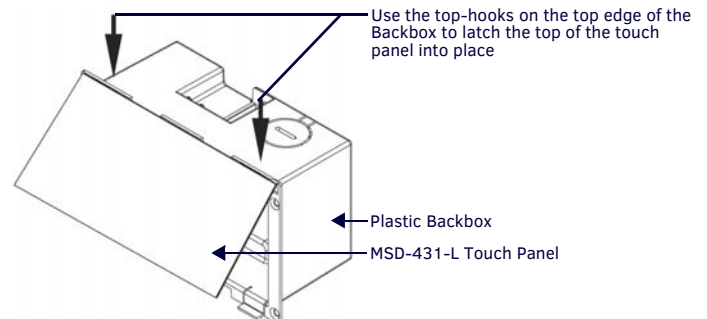

FIG. 5 ENGAGING THE TOP EDGE OF THE PANEL WITH THE TOP HOOKS ON THE BACKBOX
1. Center the top edge of the touch panel against the upper outside edge of the Backbox and latch the top of the panel onto the Backbox top-hooks (FIG. 5):